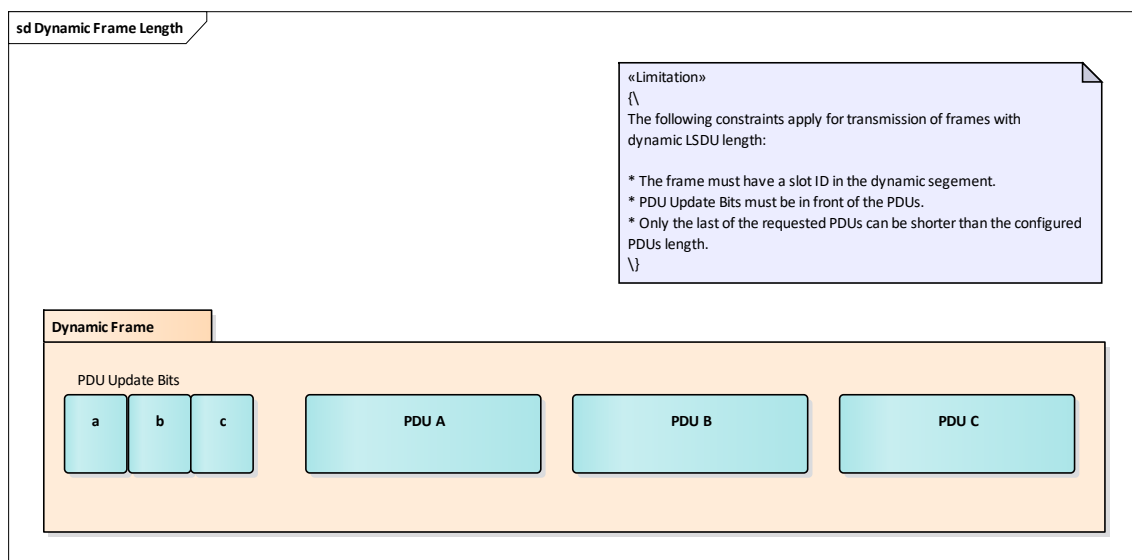

Figure 2-4 Usage scenarios of Dynamic Payload
As mentioned in Figure 2-4 there are some limitations for the usage of dynamic L-SDU length:
- ▶ If there are multiple PDUs within a frame it is not possible to request the transmission of a shortened PDU which has a lower `FrlfPduOffset` than another PDU which is also requested for transmission. If for example both PDU A and PDU C of Figure 2-4 are transmitted with a lower PDU length than configured the `Frlf` will use padding to define the frame content between the end of PDU A and the beginning of PDU C. In this case the payload of PDU A will partly be overwritten with the `FrlfUnusedBitValue` and the receiver of the PDU cannot distinguish between the actual payload and the padded content of the PDU. If only PDU A or PDU C is transmitted this issue does not occur.